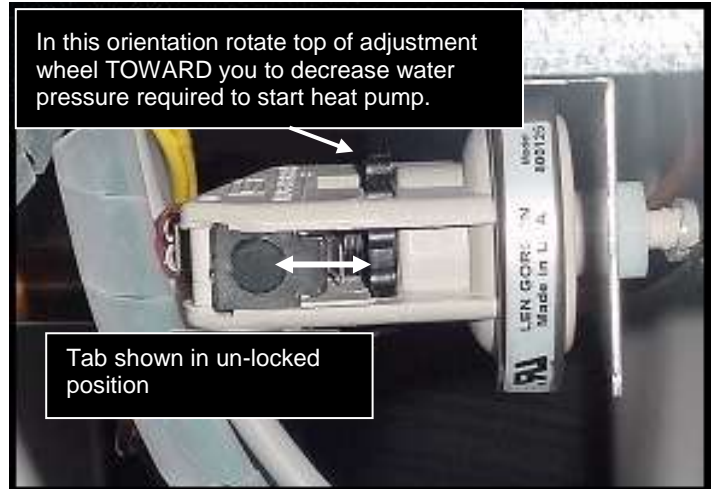

Figure 24
- Identify type of switch to adjust ("Len Gordon" or "TecMark"). To determine which brand pressure switch is installed compare water pressure switch in heat pump to Figure 24 and Figure 25. Follow the adjustment procedure for the appropriate switch.
- 1) Locate black rectangular plastic tab, located on forward-facing side of the switch. See Figure 24. The black rectangle is a wheel lock tab.